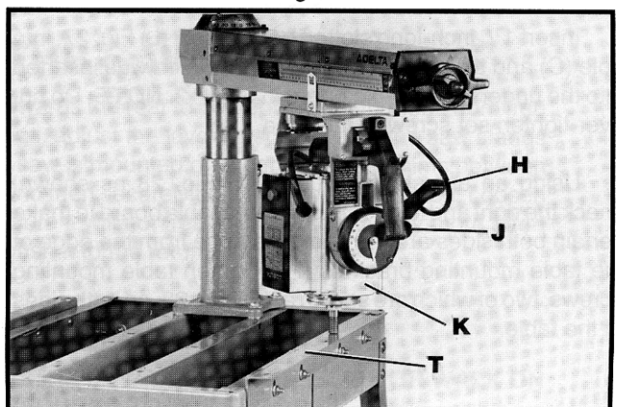

Fig. 24
12. Check and adjust the table mounting bracket (T) Fig. 24, on the other side of the machine in the same manner. Tighten cuttinghead clamp knob.
13. Loosen clamp lever (H) Fig. 24, pull out bevel index knob (J) and turn motor (K) to the horizontal position. **NOTE:** Make certain bevel index lock engages and tighten clamp lever (H).